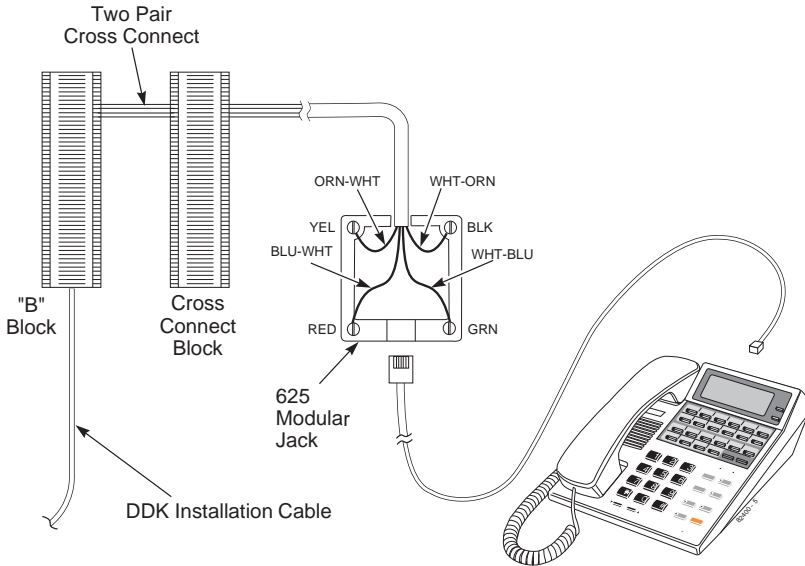

Figure 3-5 CONNECTING KEYSET TELEPHONES
- Install a modular jack for each extension within six feet of the telephone's location. See Figure 3-5.